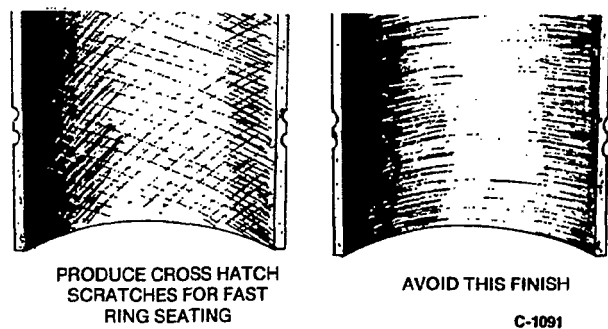

FIGURE 9-30. CROSSHATCHING
3. The deglazing tool should be driven by a slow speed drill. Move deglazing tool up and down in cylinder (10 to 12 complete strokes) rapidly enough to obtain a crosshatch pattern as shown in Figure 9-30.